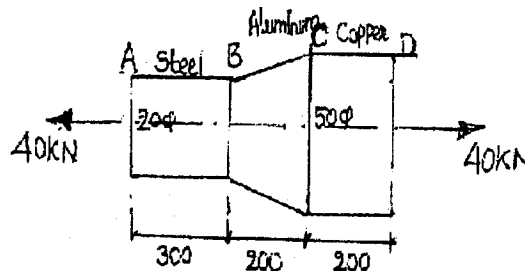

Fig. 1(b)
- b. A stepped bar is subjected to an external loading as shown in fig. 1(b). Calculate the change in the length of the bar. Take $E = 200 \text{ GPa}$ for steel, $E = 70 \text{ GPa}$ for Aluminum and $E = 100 \text{ GPa}$ for Copper. (08 Marks)